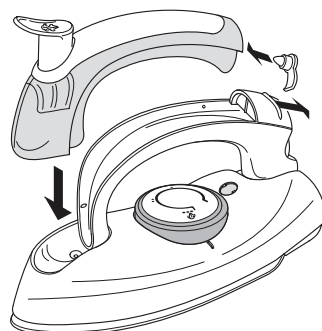

Figure 3 Removing the water reservoir
2. Use one hand to move the slide backwards and use your other hand to carefully remove the water reservoir (see figure 3).